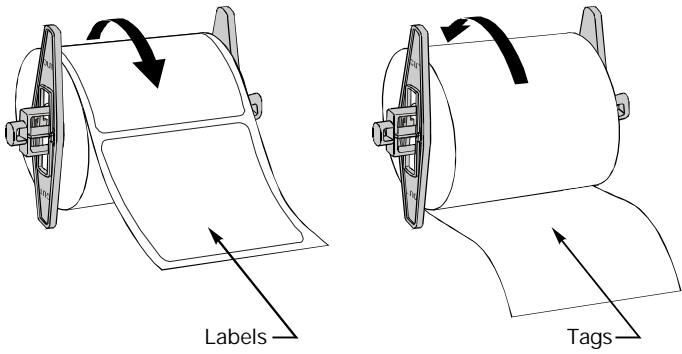

Figure 5
5. Refer to Figure 5. If you are using labels, make sure the media unwinds from the top of the roll. Tags unwind from the bottom of the roll.